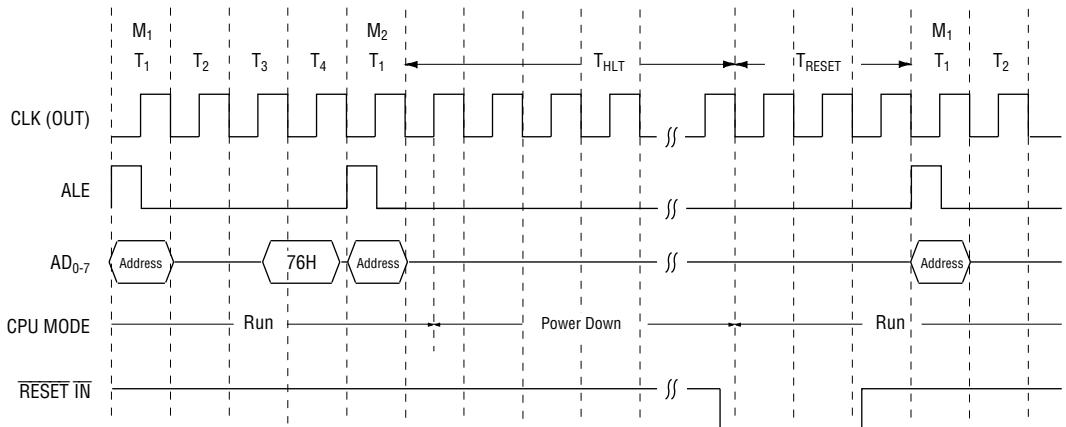

Figure 6 Started by HALT and Released by RESET IN
### **(1) Start by means of HALT command (See Figures 6 and 7.)**